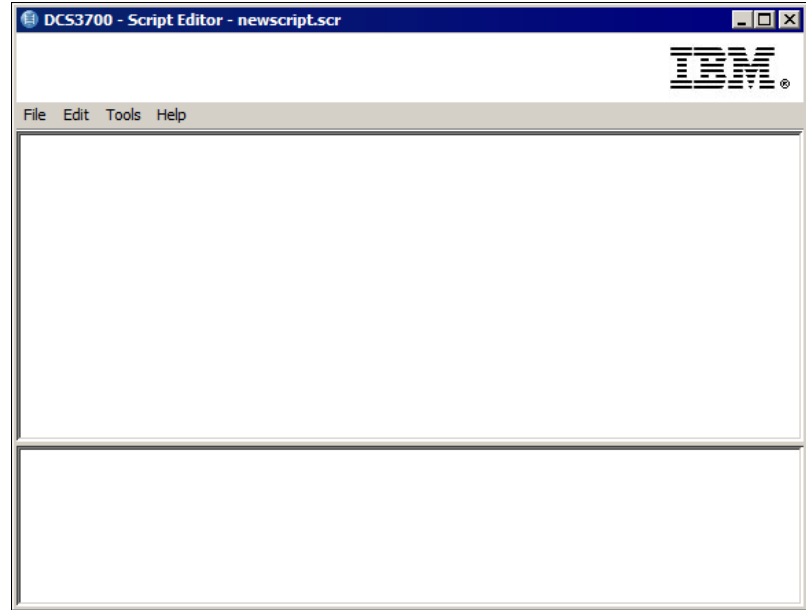

Figure 15-2 Script Editor window
2. A blank Script Editor window opens, as shown in Figure 15-2. From here, you can enter commands and save them for later execution.